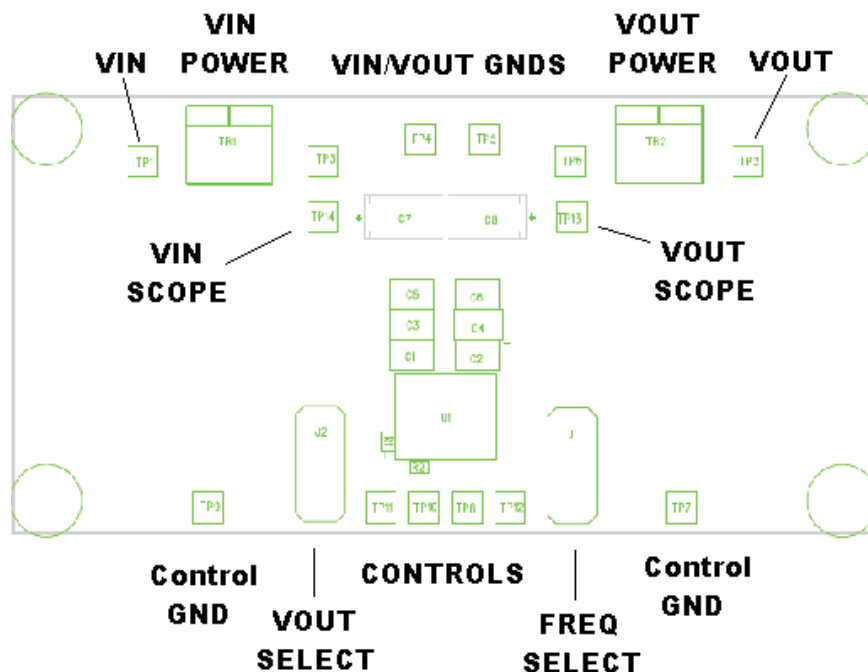

Figure 1. TPS84x10EVM-00x User Interface
**Figure 1** highlights the user interface items associated with the EVM. The polarized  $V_{IN}$  Power terminal block is used for connection to the host input supply and the polarized  $V_{OUT}$  Power terminal block is used for connection to the load. The terminal blocks can accept up to 16 AWG wire.